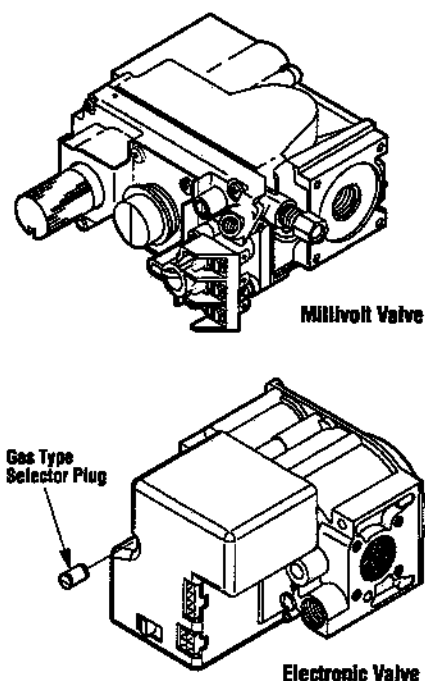

Figure 52
**Step 4. Millivolt Appliances** - Mark the wires to the gas valve. Then remove and replace the gas valve (Figure 52).